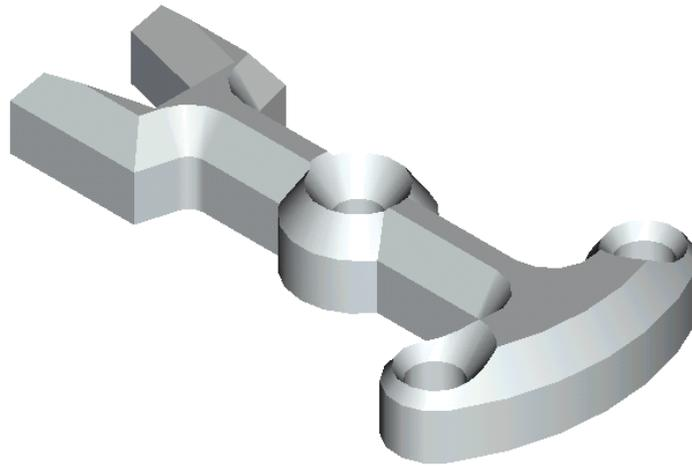

Figure 4-41 Model displayed from modified isometric view
- e. Invoke the **Orientation** dialog box and then modify the standard view, refer to Figure 4-41.
8. Now, double-click the **Isometric** option provided in the list box of the **Orientation** dialog box. You will notice that the isometric view is different now, see Figure 4-41.